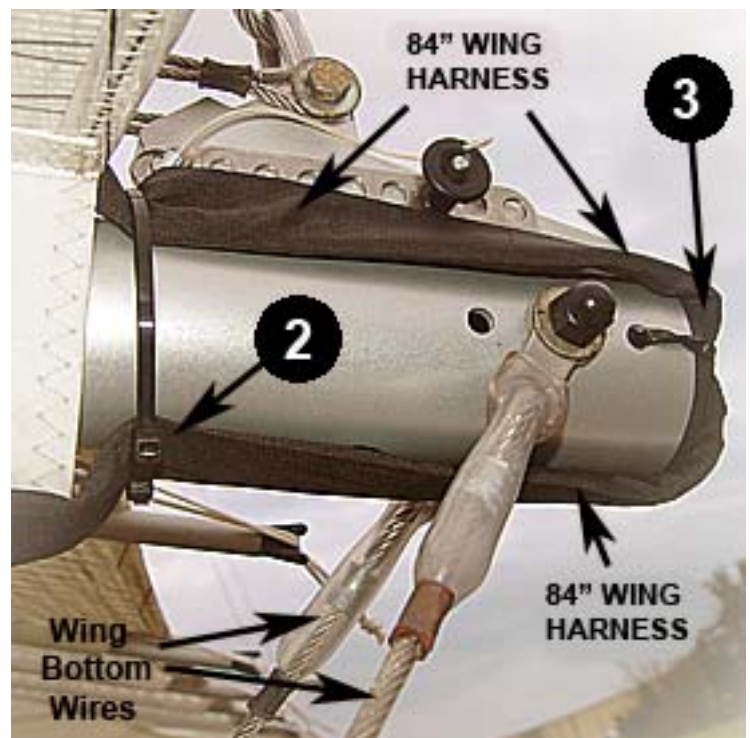

Figure 6-2
- 6.6 Attach the 84" Wing Harness to the keel tube using cable-ties. This is shown as points **2** and **3** in Figures 6-2 and 6-3.